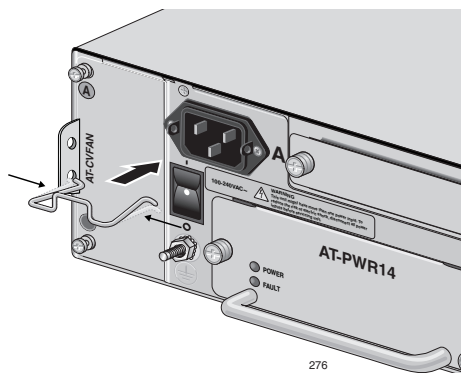

Figure 16. Inserting the Retaining Clip into the Retaining Bracket
3. With the “u” of the clip facing up, press the sides of the clip toward the center and insert the short ends into the holes in the retaining bracket, as shown in Figure 16.